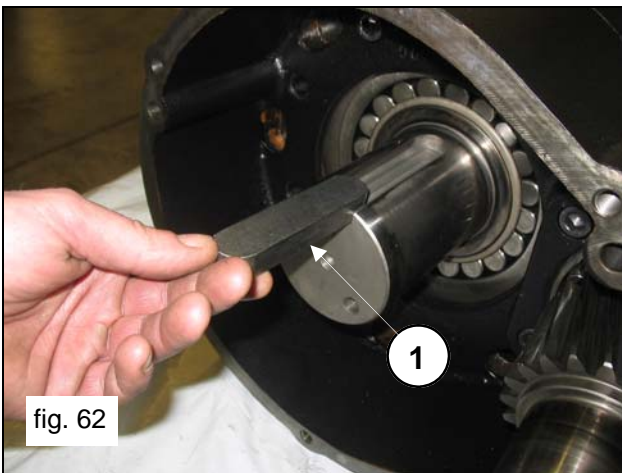

fig. 62
Apply the 22x14x100 key in the seat on the shaft (pos. ①, fig.62) and insert the ring gear on the shaft. Fasten the ring gear stopper (pos. ①, fig.63) using the two 2 M10x25 screws (pos. ②, fig.63). Calibrate the screws with the torque wrench as indicated in paragraph 3 SCREW CALIBRATION.